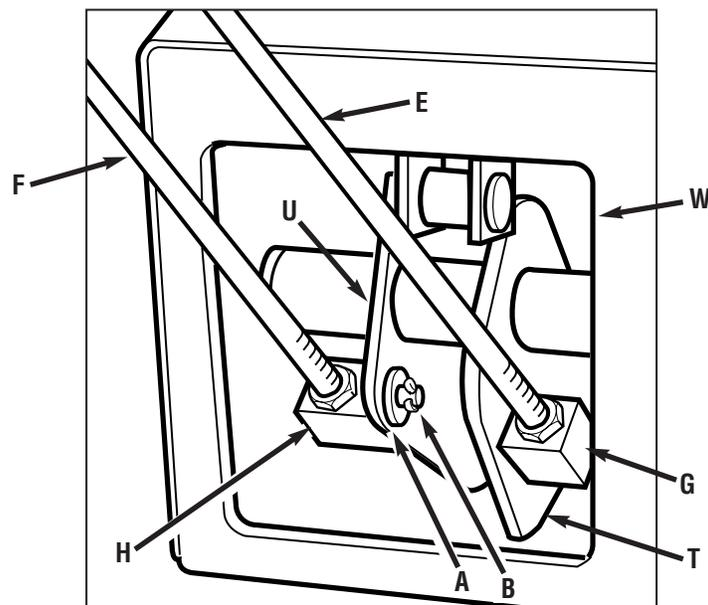
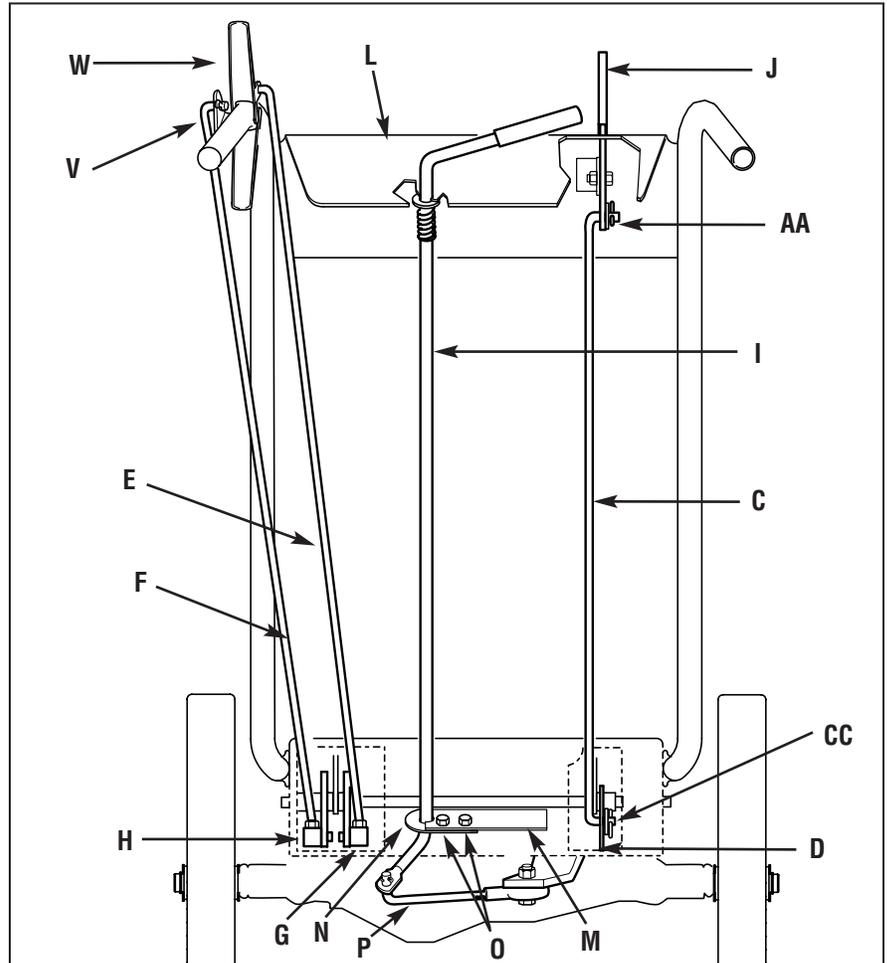
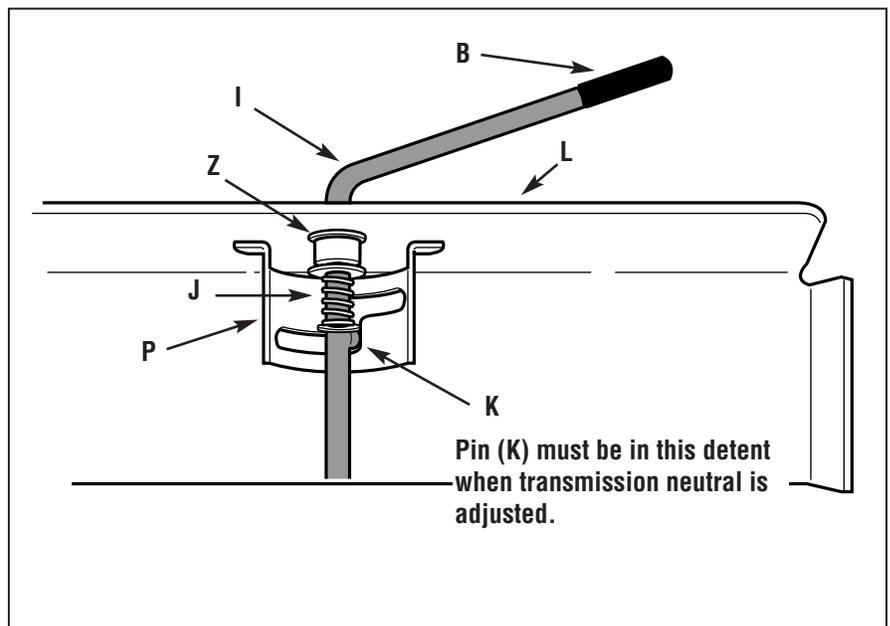
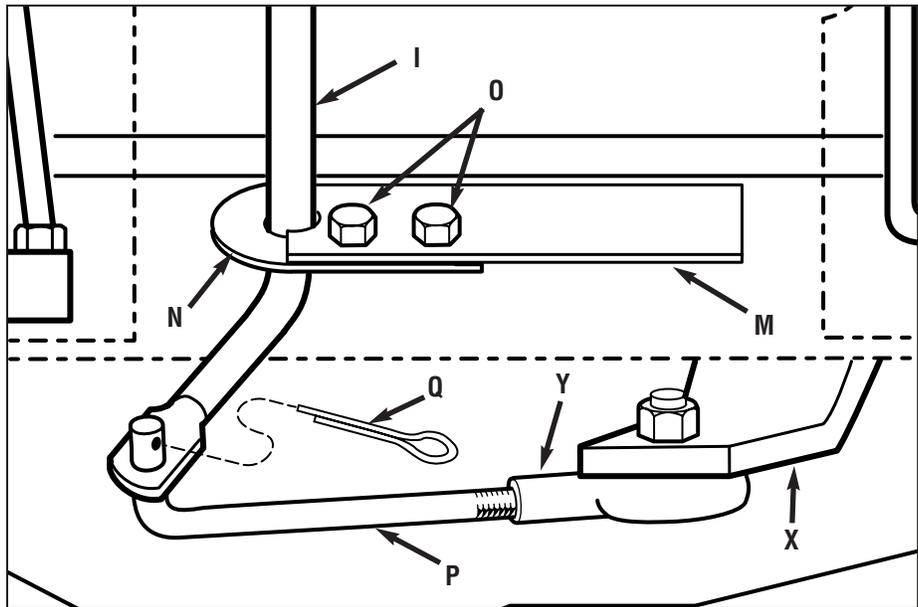

Figure 2-6: Left-hand control rods detail.
Figure 2-7: Rear view of control rods.
Figure 2-8: Detail – Gear Select Lever in Neutral (N) position.
Figure 2-9: Detail - Transmission Neutral Adjustment.
1. Locate the wheel drive control rod (F, Figures 2-6 & 2-7) that was removed from the left handlebar in Step 2. This rod has a swivel block (H, Figure 2-6) on one end.
2. At left side of engine deck, insert swivel block (H, Figures 2-6 & 2-7) on wheel drive control rod into wheel drive control arm (U, Figure 2-6).
3. Add a 5/16" washer (A, Figure 2-6) and attach with a cotter pin (B). Bend legs of cotter pin over rod to secure.
1. Locate control rod (E, Figures. 2-6 and 2-7) attached at upper end to Operator Presence Control lever (W, Figure 2-7).
2. At bottom of control rod, insert swivel block (G, Figures 2-6 & 2-7) into control arm (T, Figure 2-6).
1. Locate the blade drive control rod (C, Figure 2-7) that you removed in Step 2. Insert one end of control rod into blade drive bracket (D, Figure 2-7). Add one 5/16" washer and attach with cotter pin (CC). Bend ends of cotter pin to secure.
2. Insert upper end of rod into bottom end of Blade Drive Control lever (J, Figure 2-7). Add one 5/16" washer and attach with cotter pin (AA). Bend ends of cotter pin to secure.
1. Using the edge of a piece of flat wood (such as a ruler), remove the vinyl grip (B, Figure 2-8) from the gear select lever (I). Place the wood edge against the edge of the grip and slowly pull off the grip.
2. Insert nylon bushing (Z, Figure 2-8) up into console (L).
3. Slide spring and washers (J) down onto gear select lever.
4. Insert gear select lever (I) up through nylon bushing (Z) in handlebar console (L). Guide pin (K) on gear select lever into groove in shift quadrant (P).
5. Hold lower part of gear select lever (I, Figure 2-9) against bracket (M). Position retaining plate (N) from parts bag in place as shown in Figure 2-9 (plate below bracket). Secure plate with two 1/4"-20 x 1/2" screws (O) and 1/4"-20 locknuts.
6. Slide grip (B, Figure 2-8) back onto gear select lever (I).
7. Rotate gear select lever (I, Figures 2-8 & 2-9) clockwise until spur (K - short rod) on gear select rod stops in the neutral position detent on the shift pattern quadrant (Figure 2-8).
8. At bottom of control rod, thread shift link (P, Figure 2-9) partially into ball-joint (Y).
9. Move shift arm (X, Figure 2-9) from side to side as necessary into each transmission gear detent until transmission is in neutral.
NOTE: Moving shift arm (X) all the way to the left, and then one notch back to the right, should put transmission into neutral. When transmission is in neutral, unit will move freely when pushed while holding the Operator Presence Control lever (W, Figure 2-7) down. If transmission is NOT in neutral, there will be a slight drag on the wheels when pushing unit.
10. When shift arm (X) is in neutral position, rotate shift link (P) toward end of gear select lever rod (I). Adjust length of shift link (P) as necessary to fit into hole in bottom of gear select lever (I).
NOTE: Pin (K) on Gear Select Lever (I) must be held in the neutral position detent on the shift quadrant (see Figure 2-8) while shift link (P, Figure 2-9) is adjusted.
11. Insert hooked end of shift link (P, Figure 2-9) into hole in bottom end of gear select lever (I) and secure with cotter pin (Q). Bend ends of cotter pin. NOTE: It may be necessary to lift gear select lever (I) to install shift link (P).
12. Remove unit from shipping crate. To remove, hold down Operator Presence Control lever (W, Figure 2-7) which releases the wheel brake.
13. With unit on level ground, hold down Operator Presence Control lever (W, Figure 2-7) and push unit forward
and backward. The wheels should move freely. If not, adjust length of shift link (P, Figure 2-9) as necessary.
1. Move mower to a level area. Press and hold Operator Presence Control lever (W, Figure 2-7) to move mower.